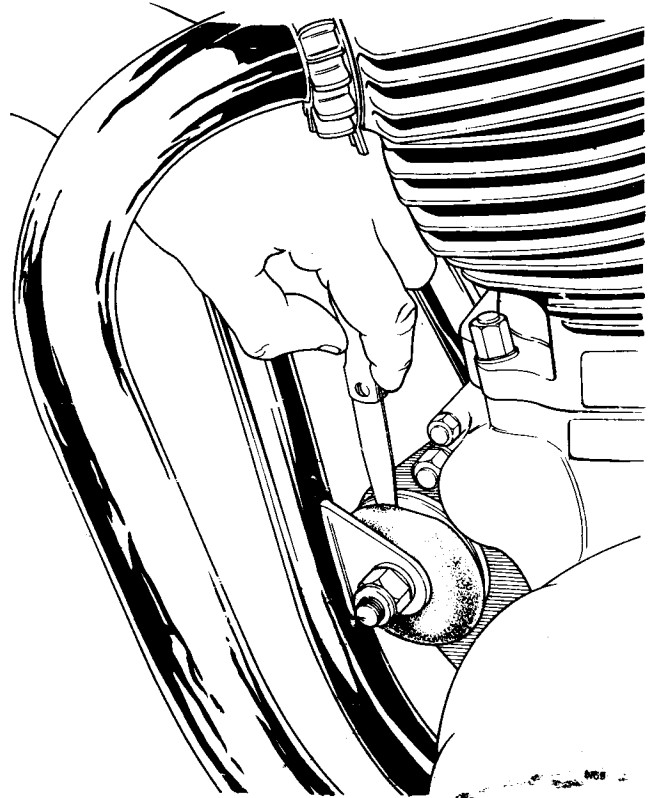

Fig. F12 Checking front mounting clearance
- 2 Push or lever the engine to the right until all slack in the Isolastic mounting has been taken up. Holding the engine unit in this position, use feeler gauges to measure the clearance between the plastic washer and bright plated collar. (See Fig. F12).